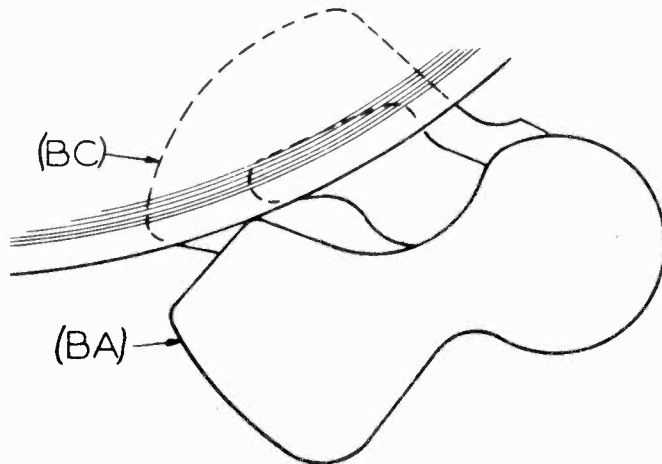

FIG. 4
To adjust the distance between the selector plate (BA) and the shelf plate (BC) for 10" records, first select a 10" record that is approximately .070" thick. Then position it on changer and start a change cycle to revolve changer plates. Stop the turntable by hand just as the selector plate (BA) is about to touch the record, and shut off the motor (see fig. 4). Then slowly revolve the turntable by hand, allowing selector plates to contact edge of record so that it just slides over record, touching the surface lightly. Check all three